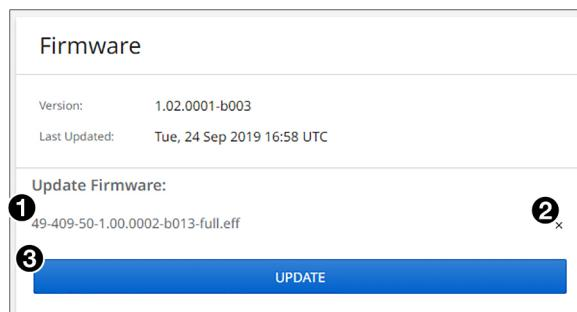

Figure 56. Firmware Update Dialog Box with a Firmware File Selected
3. Double-click the firmware file name. The Open window closes, and the selected firmware file name appears in the Update Firmware panel on the web page (see figure 56, ①).